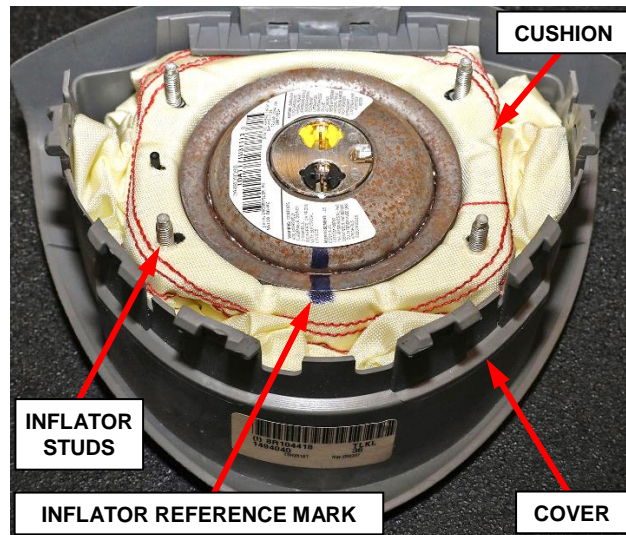

Figure 18 – Install Cushion into Cover
1. Install the air bag cushion into the cover starting by tucking the cushion into the top of the cover. Once the top is tucked, apply pressure to the rest of the cushion and inflator to fit snugly into the cover. Ensure inflator studs are in a central location identical to production position. Ensure the inflator is lined up with the reference mark made earlier (Figure 18).